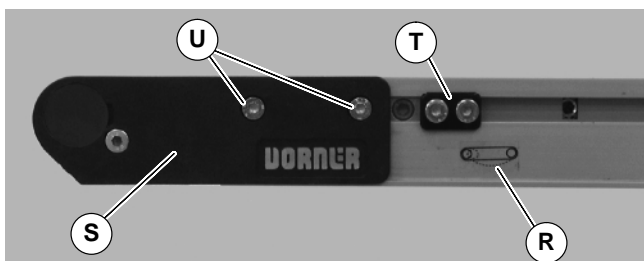

Figure 5
2. On tension end of the conveyor, identified with a  label (R of Figure 5), push in head plate assembly (S): On both sides of conveyor, loosen and move cam tracking assemblies (T) (if equipped) away from head plates, then loosen fastening screws (U) and push head plate assembly inward.
7. If equipped with cam tracking assemblies (T of Figure 5), adjust belt tracking. Refer to “Conveyor Belt Tracking”, page 16.